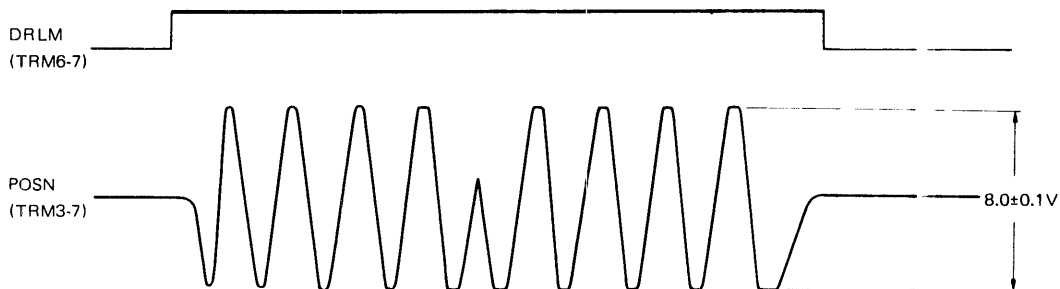

Figure 6-6-5 Position Signal Gain Adjustment
5. Adjust potentiometer RV4 so that POSN signal amplitude is $8.0V \pm 0.1V$ (peak to peak). Refer to Figure 6-6-5.